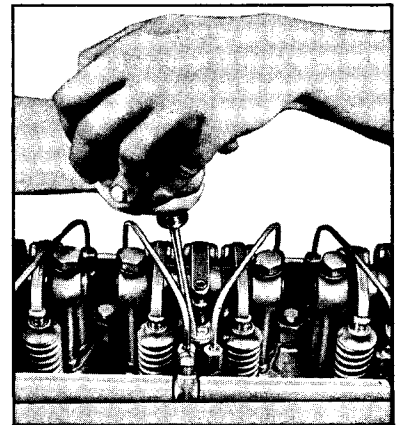

Fig. 1—Locating a Misfiring Cylinder.
- (d) Hold the No. 1 injector plunger down with a screwdriver (see Fig. 1) thus preventing operation of the injector.